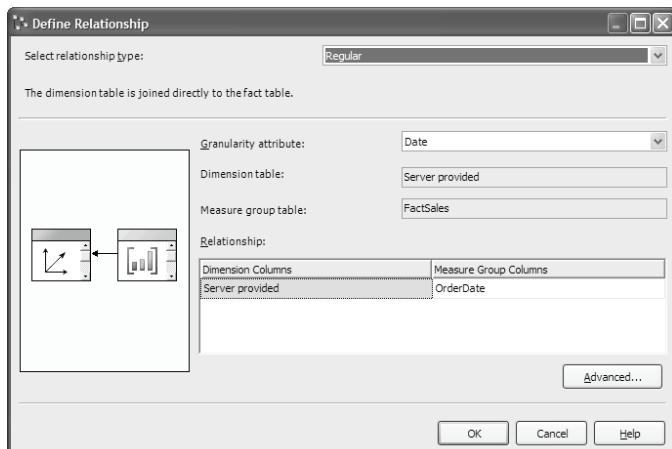

Figure 4.38 Establish a relationship between a dimension and a measure group.
- In the Define Relationship dialog, define a new relationship between the Date dimension and the FactSales measure group, as shown in Figure 4.38.